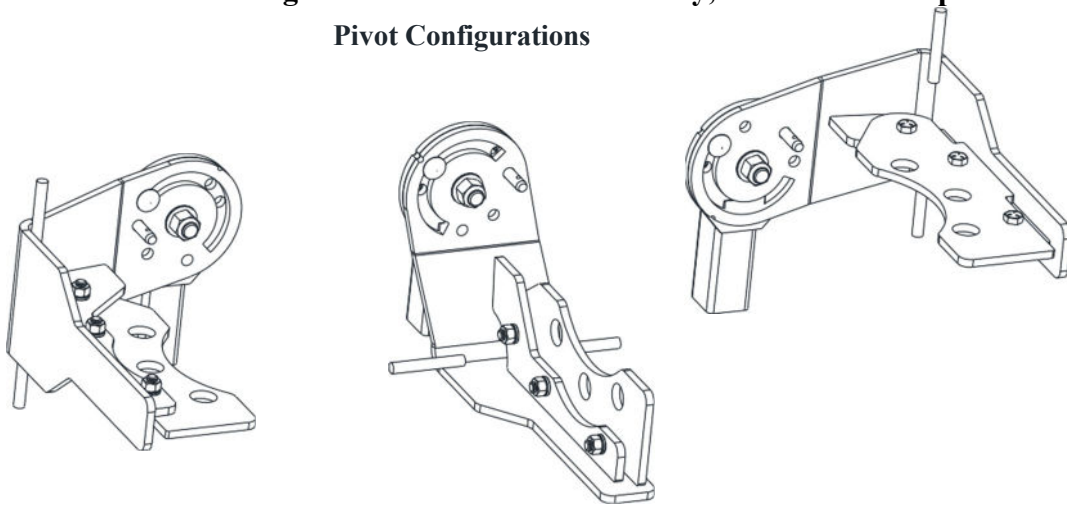

Figure 2
1. It will be necessary to remove the caliper so that the hub/rotor can be removed. Follow the instructions for removing the caliper. Remove caliper and Caliper Extension Adapter from the Disc Brake Dolly, install the Wheel End Adapter to the tool post, and fully insert the hitch pin to the tool post at the desired height. Using the second pin, pin the Wheel End Adapter to the in place, in the vertical direction. Select the appropriate Adapter Plate that matches the bolt pattern of the hub/rotor assembly being serviced. Attach the Adapter Plate to the Wheel End Adapter as shown in Figure 2. Secure with the nuts and washers provided and torque to 50 ft-lbs.